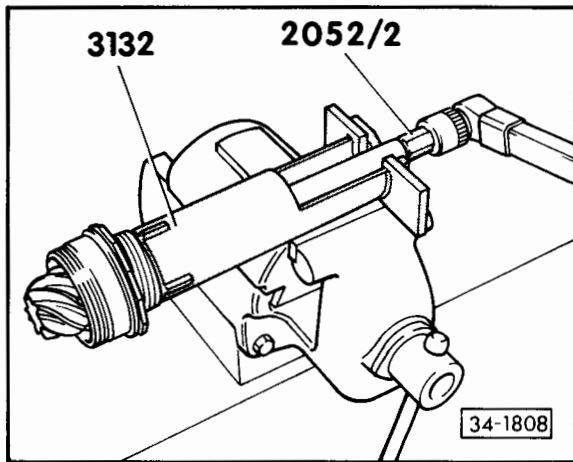

Fig. 2 Unscrewing and tightening slotted nut
- Unscrewing, final drive with selectable 4WD – Fig. 2
- o adjusting - Fig. 2
- o install so that bellows sits correctly at the front - Fig. 2
◄ Fig. 2 Adjusting front bellows